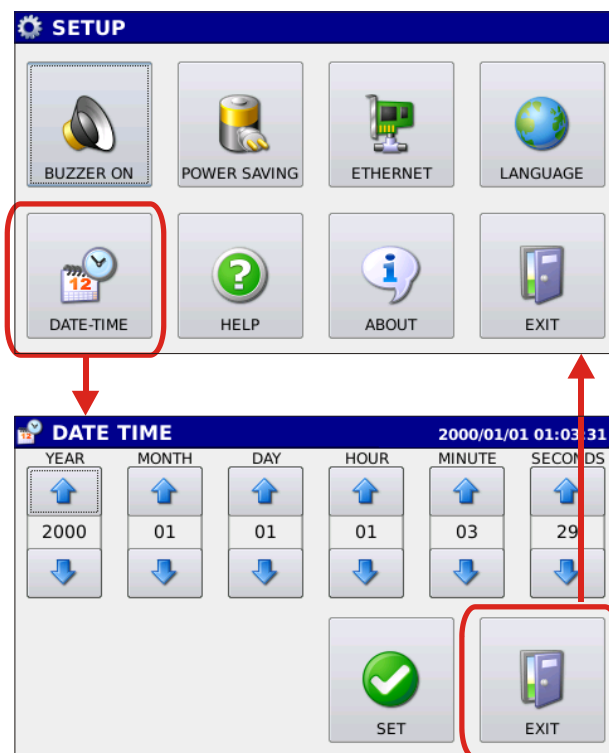

Fig. 6.9: Date/Time setting window
6.5 **Setting date and time.** By pressing the Date-time button it is possible to access the window for date/time setting (figure 6.9).